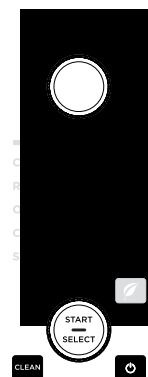

Fig. 23
- 3 Once the water reservoir is filled with your cleaning solution and water mixture, press the CLEAN button (**Fig. 23**).